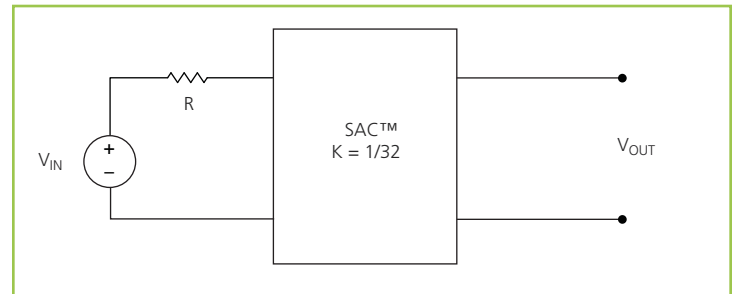

Figure 15 — K = 1/32 Sine Amplitude Converter™ with series input resistor
The use of DC voltage transformation provides additional interesting attributes. Assuming that ROUT = 0 Ω and IQ = 0 A, Eq. (3) now becomes Eq. (1) and is essentially load independent, resistor R is now placed in series with VIN as shown in Figure 15.
Assuming that $R = 1 \Omega$, the effective R as seen from the secondary side is 0.98 m Ω , with $K = 1/32$ as shown in Figure 15.